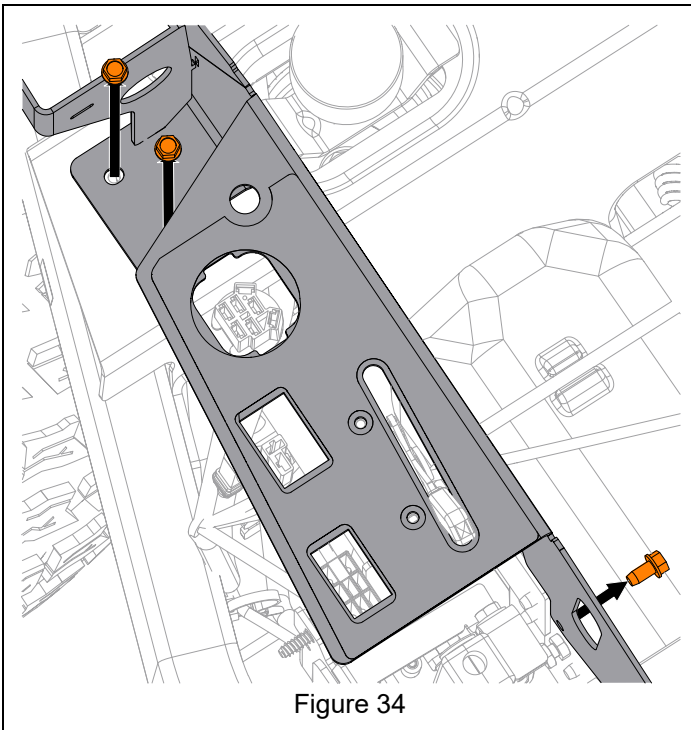

Figure 34
6. Remove three tapping screws retaining control panel and remove control panel. See Figure 34.